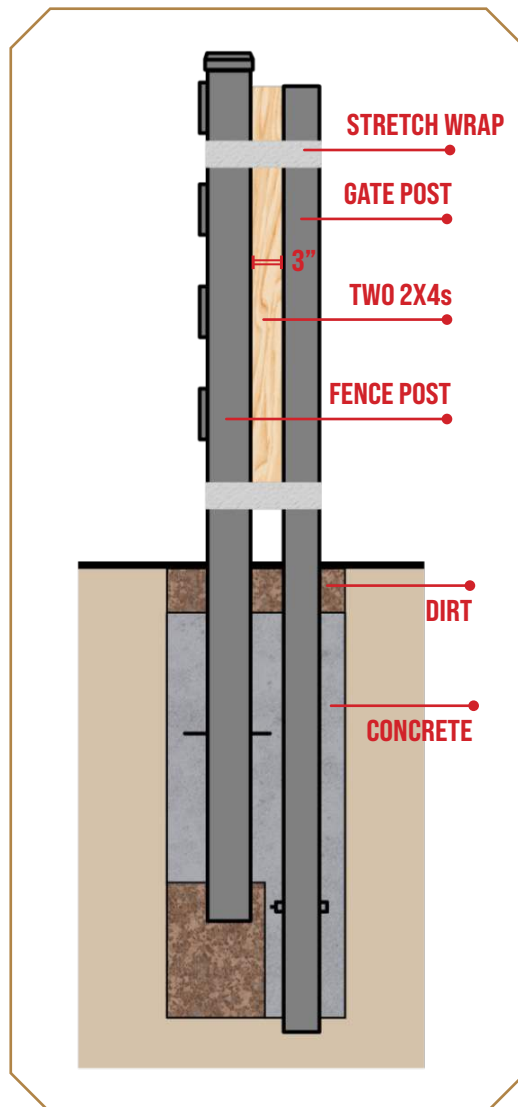

Figure 3
2. Set the gate post assembly in the hole with a 3" gap to the existing fence post. Plumb and square the gate post using two 2x4s which will equal 3 inches total in width (Figure 3). Use stretch wrap around the gate post, fence post, and 2x4s to temporarily hold them together.